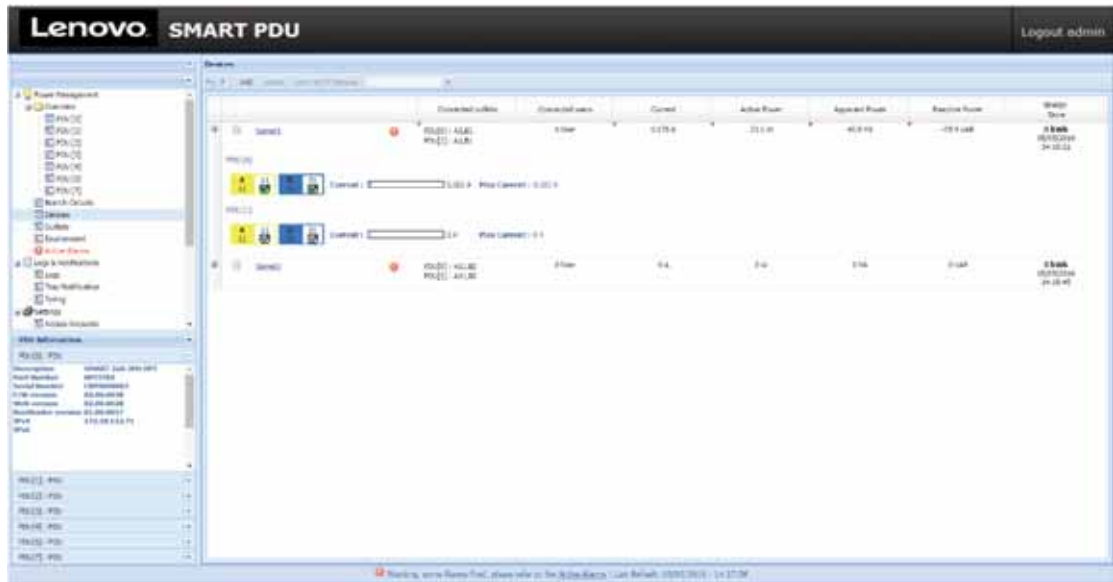

Figure 76. Expand Load-Balancing Details on Row for Device
5. Click the checkbox next to the device name or double-click the row to see load-balancing details about this device, including the outlet status, the gauge of the instantaneous current, and the peak current (see Figure 76).